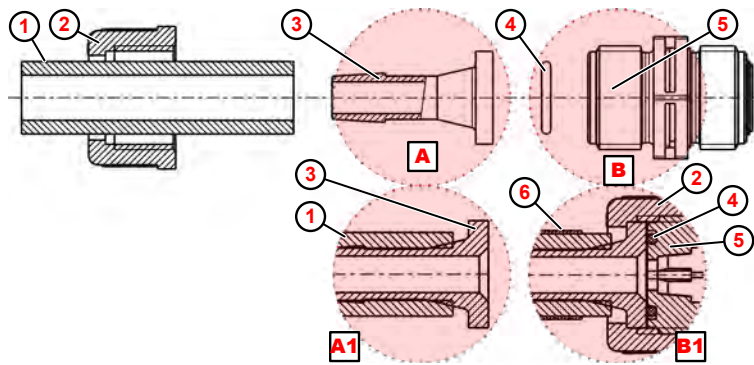

Fig. 19: Pipe and hose connection with attachment nipple and hose clamp
1. ➤ Cut off the hose with a straight cut (Fig. 19 , ①).
2. ➤ Slide the hose clamp ⑥ over the hose ①
3. ➤ Slide the union nut ② over the hose ① .
4. ➤ Slide the hose ① onto the attachment nipple ③ up to the stop collar (for details, A1).
5. ➤ Place the o-ring ④ in the groove of the suction or pressure valve ⑤ .
6. ➤ Tighten the union nut ② .
7. ➤ Push the hose clamp ⑥ downward and tighten (for details, B1).